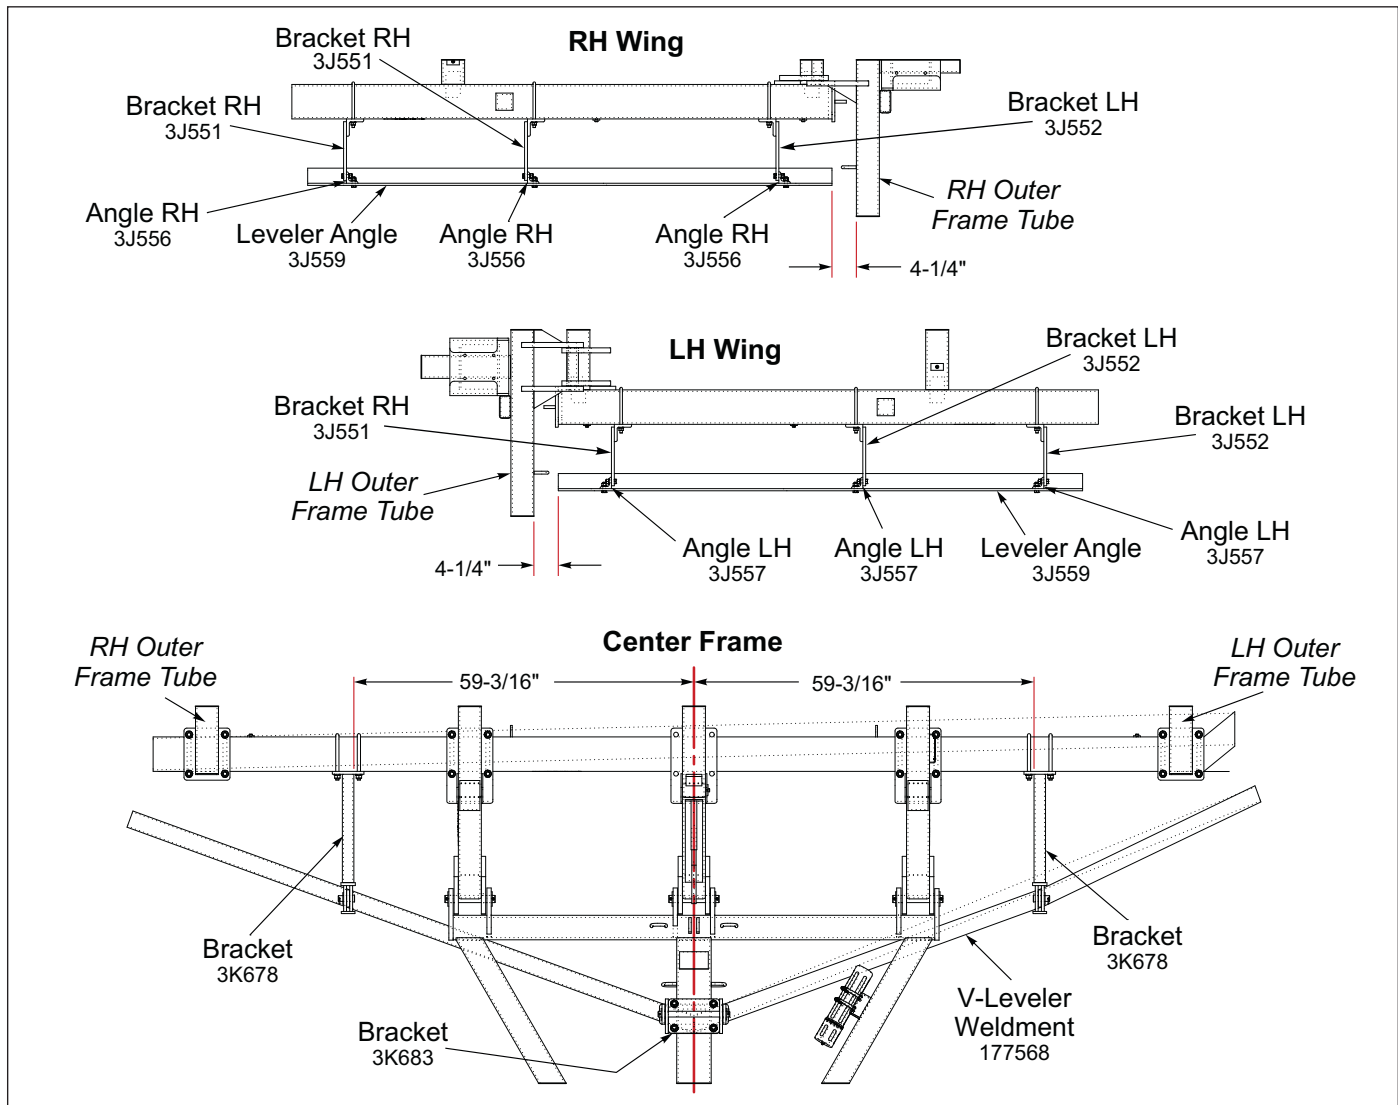

Figure 2-45: V-Leveler Mounting Dimensions - Optional
1. Attach the Left and Right Hand Brackets to the Front Center Frame Tube and Wing Frame Tube using 1/2-13 U-Bolts, Lock Washers and Nuts. When the bracket is in position, left and right hand is determined by which side of the bracket the arm projects from. See **Figure 2-45**.
Refer to **Figure 2-45** for V-Leveler mounting dimensions.
1. Attach the Left and Right Hand Brackets to the Front Wing Frame Tube using 1/2-13 U-Bolts, Lock Washers and Nuts. When the bracket is in position, left and right hand is determined by which side of the bracket the arm projects from. **See Figure 2-45.**